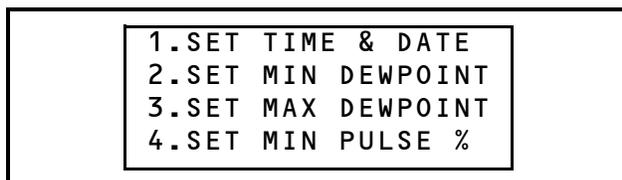

Figure 1-13 - Setpoints Configuration Screen (First Screen)
3. Press the  button to select and open the Setpoints Configuration screen (*Figure 1-13*).
To define the time and date from the Setpoints Configuration screen (*Figure 1-13*):
To configure dewpoint levels from the Setpoints Configuration screen (*Figure 1-13*):
13. Press the  button to save changes and go back to the Setpoints Configuration screen (*Figure 1-13*).
- From the Configuration screen, press the  button to scroll down the list to **9. SENSOR FAIL OUTPUT** and press the  button to select. Use the  and  buttons to adjust percentage. This setting determines the PMAC II Solo output in the event that the RH or temp sensors are not present or have failed. Press the  button to save and go back to the first Setpoints Configuration screen (*Figure 1-13*).